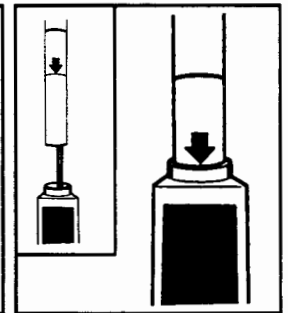

Figure 3
5. Align the arrow on the decal with the top of the motor housing. Figure 3. Slide tube into motor housing until the tip of the arrow on the decal reaches the top of the motor housing. Figure 3.